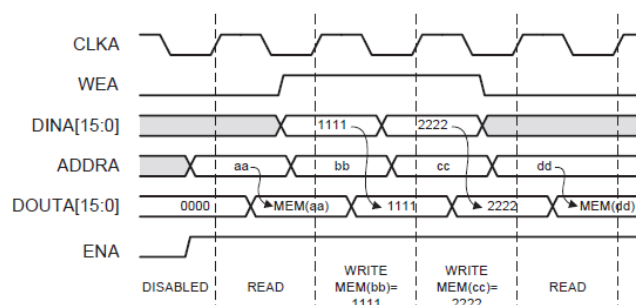

Figure 3-9: Write First Mode Example
- **Write First Mode:** In WRITE\_FIRST mode, the input data is simultaneously written into memory and driven on the data output, as shown in Figure 3-9. This transparent mode offers the flexibility of using the data output bus during a Write operation on the same port.